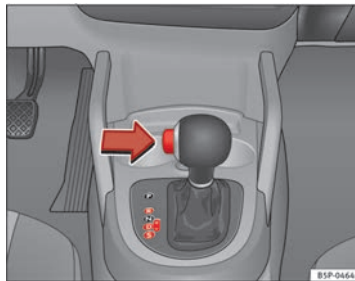

Fig. 148 Driving
- Press the button on the selector lever knob (on the left) → fig. 148.